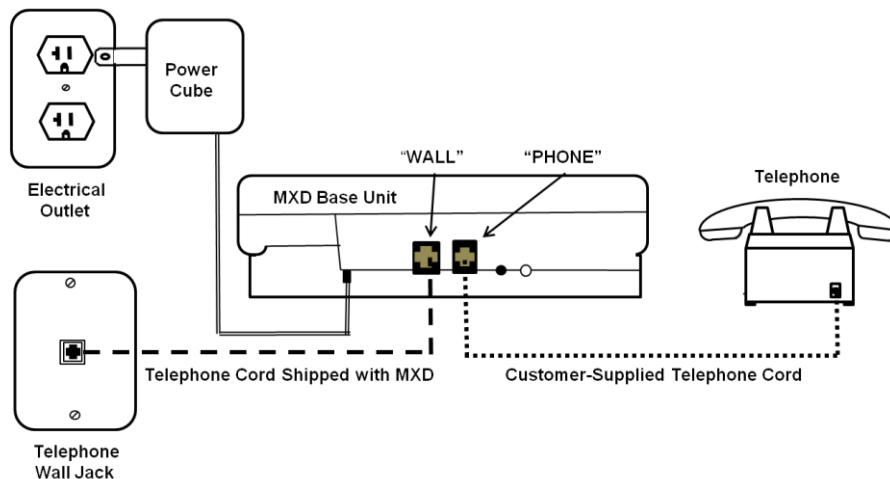

Figure 7. MXD Connections for Locations with Hard-Wired DSL Filters (Connections are the same as for standard telephone service)
2. **Configuration 2: The DSL filter is hard wired by the DSL provider.** In this instance the location does not have self-installed filters on the telephone jacks, and the MXD unit should be connected in the same manner as for traditional telephone service. See Figure 7 below.